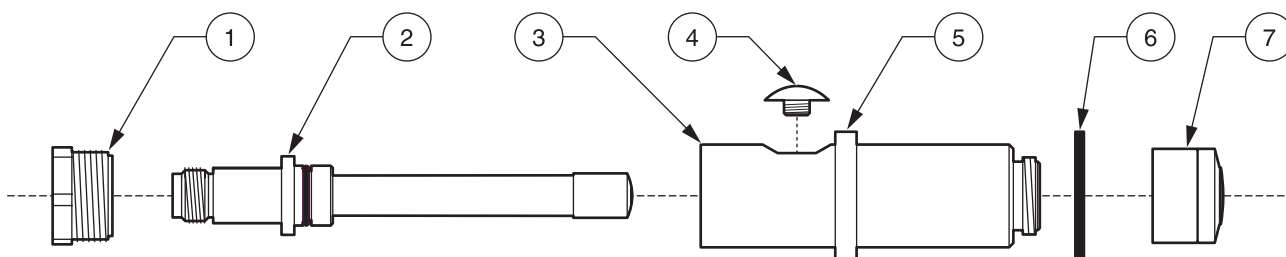

Figure 5 Probe Components¹
1. Push the tubing into the influent of the flow analyzer (Figure 5).
Refer to Figure 5 for a detailed description of the probe components.